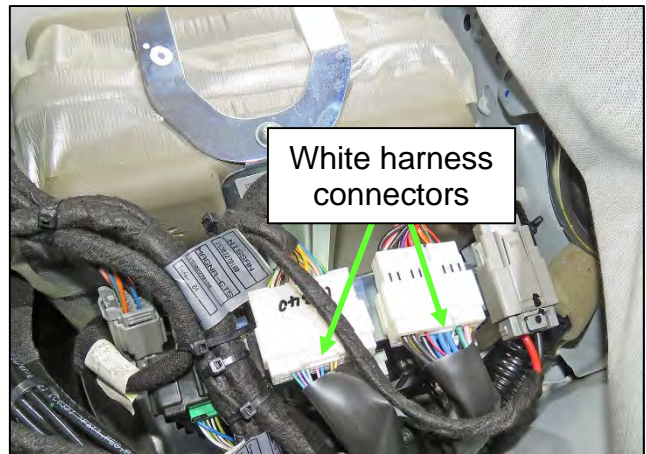

Figure 202
218. Disconnect the two (2) white harness connectors shown in Figure 202.